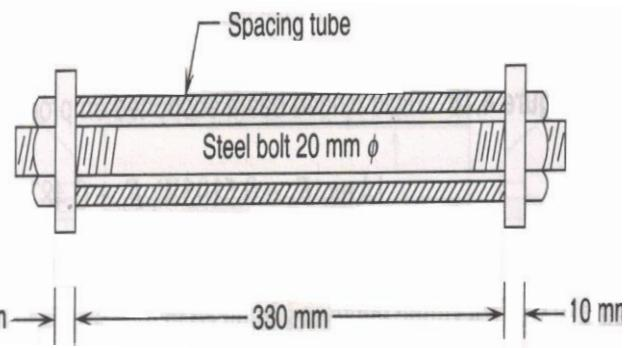

Fig. 4
4. A 350mm long steel bolt having a nominal diameter of 20mm and a thread pitch of 2.4 mm is used to connect two plates of 10mm thickness each. An aluminium spacing tube of internal and external diameters of 22 and 44 mm, respectively, separates the plates. If the nut is initially tightened snug (just tight), determine the stresses induced in the tube and in the bolt if the nut is given one-third additional turn. Neglect the deformation in the plates. $E_{st} = 207 \text{ GPa}$, $E_{Al} = 67.5 \text{ GPa}$. (See **Fig. 4**)